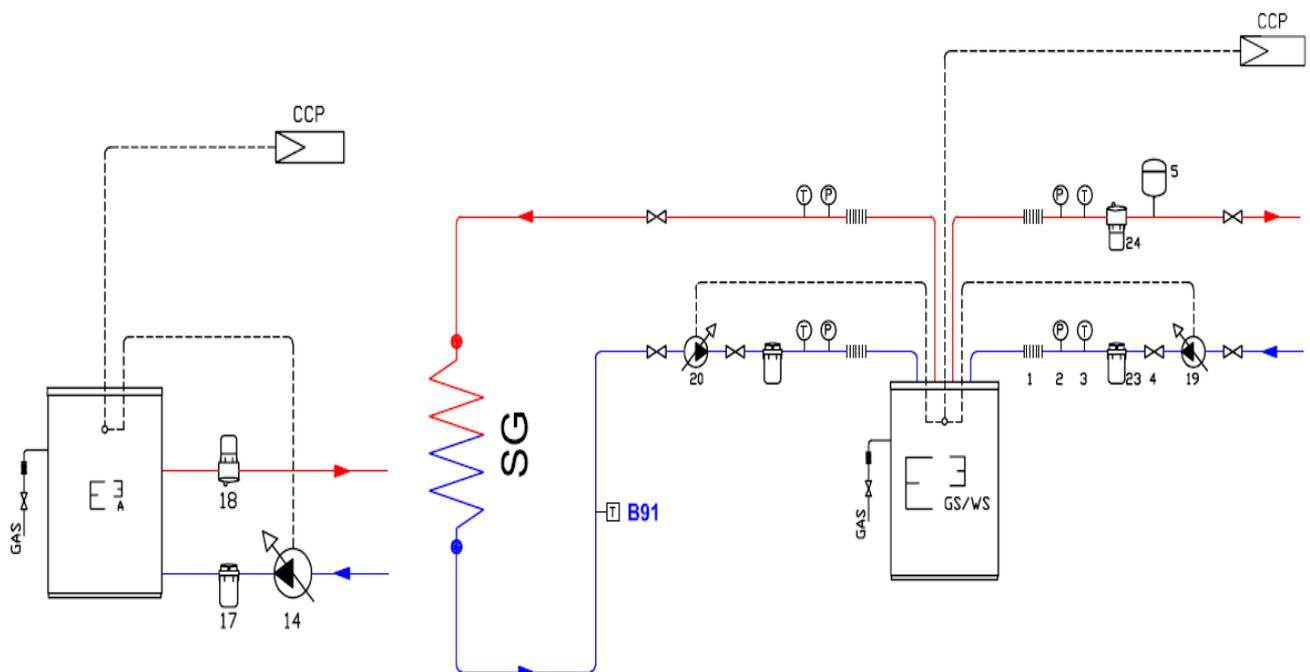

Figure 49 Components E³
- E³ A (see Figure 49 to the left): Robur air/water heat pump
- E³ GS/WS (see Figure 49 to the right): Robur water/water heat pump